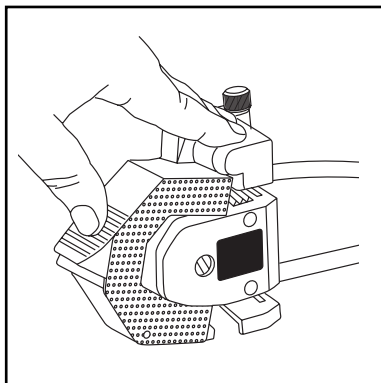

Figure 3-11. Closing the Stator
3. Refer to Figure 3-11. Push the Stator closed until you hear the Latch engage.